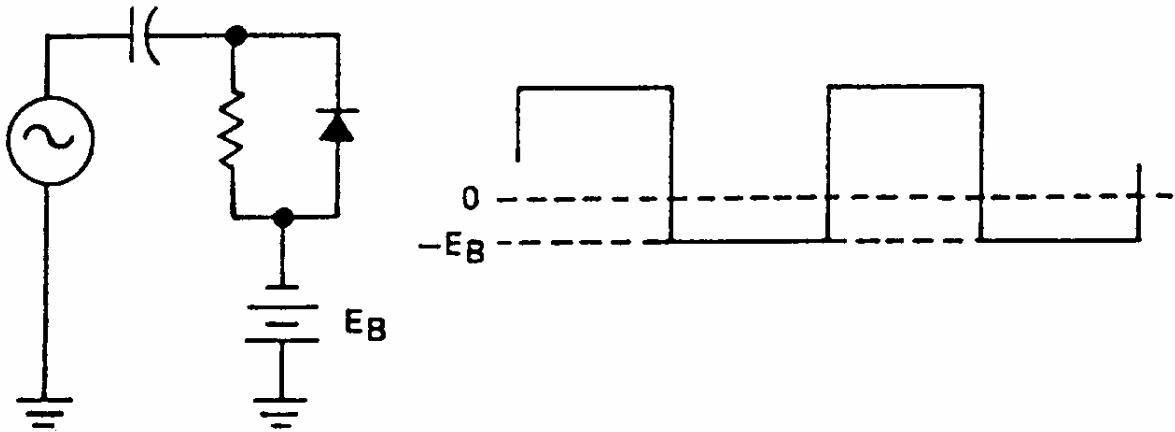

Figure O-3. Positive Diode Clamping to a Negative Bias Level
c. Figure O-3 shows positive diode clamping to a negative bias level.